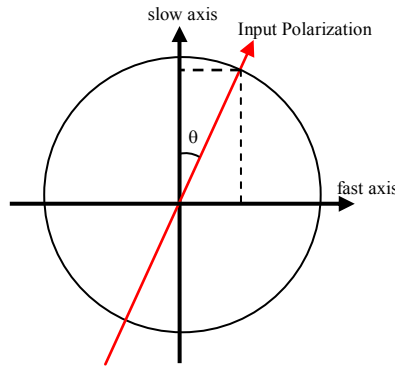

Figure 28 A representation of linearly polarized light misaligned by an angle  $\theta$  from the slow axis of a PM fiber
Polarization maintaining (PM) optical fibers have an optical (slow) axis defined by a strong linear birefringence. If light input to an ideal PM fiber is polarized along the fiber's optical axis, the polarization state will be maintained during propagation through the fiber. However, if it is misaligned, or is not fully polarized, the component polarized along the slow axis propagates at a different speed than the component polarized along the fast axis. Thus, the polarization state of the light changes with the relative phase delay between the two components as it propagates through the fiber. For the case of a linearly polarized light beam launched into a PM fiber with its polarization axis rotated by an angle  $\theta$  from the PM fiber's slow axis, as shown in Figure 28, the extinction ratio due to the misalignment can be calculated as